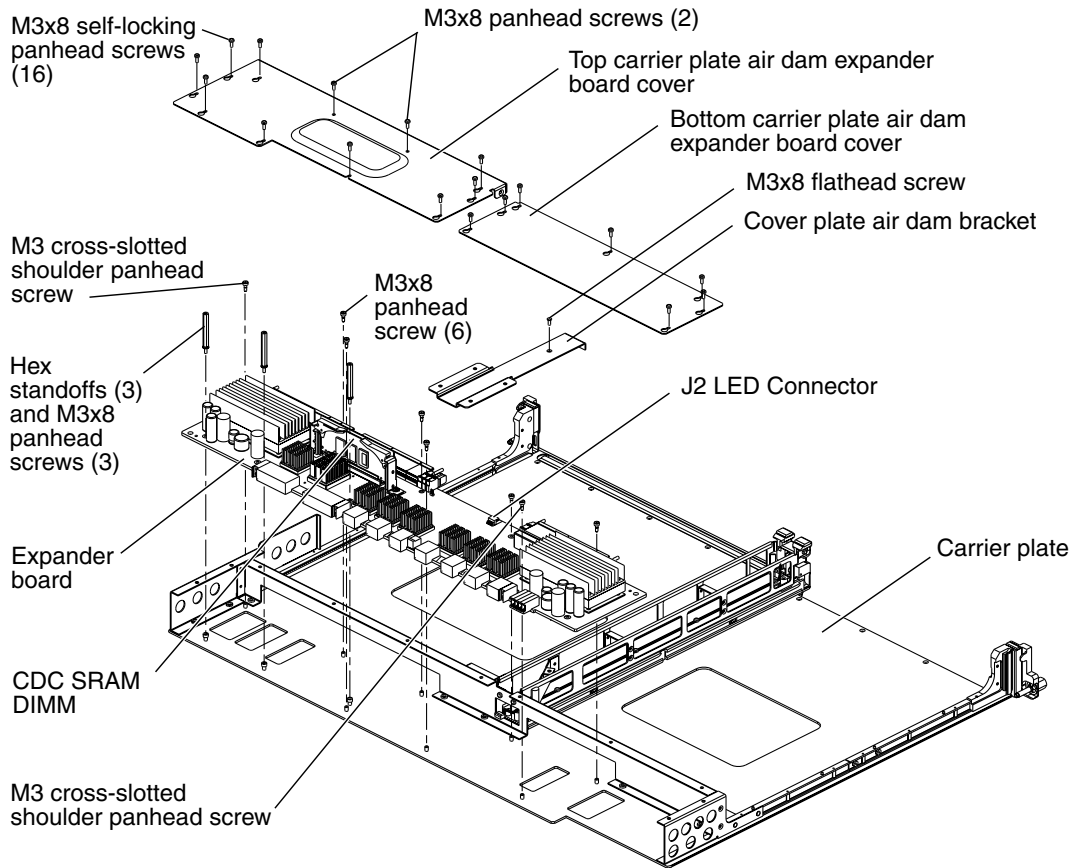

FIGURE 12-2 Expander Board and Carrier Plate—Exploded
3. Using two (2) 0.5 in. (13 mm) nut drivers, simultaneously loosen the carrier plate captive ejector screws until they are fully disengaged.
5. Using a Phillips No. 2 screwdriver, remove the two (2) M3x8 panhead screws on the top expander cover that are not common to the rest of the slotted holes.
6. Remove the one (1) M3x8 flathead screw and remove the cover plate air dam bracket located near the center of the assembly.
7. Loosen the remaining sixteen (16) M3x8 self-locking panhead screws and remove the top, bottom, and center covers and set aside.
9. Use a 0.25 in. (6mm) nut driver to remove the three (3) threaded hex standoffs.
10. Remove the two (2) M3 cross-slotted shoulder screws from the expander.
11. Remove the six (6) M3x8 panhead screws from the expander.
12. Firmly grasp the expander board lifting upward and pulling out away from the carrier plate standoffs (FIGURE 12-2).